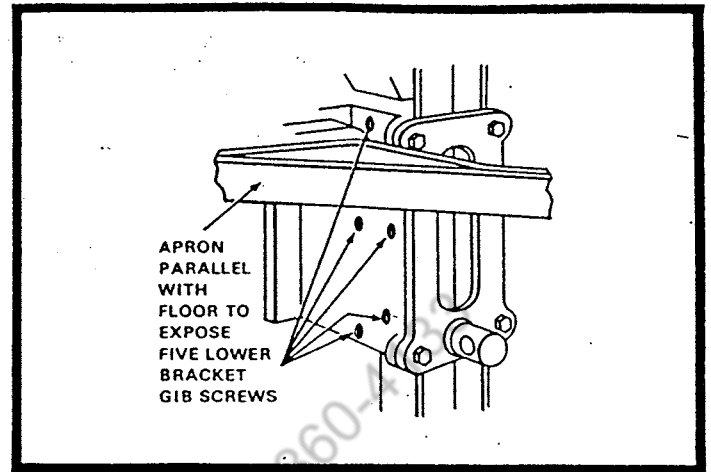

Figure 1. Lower Beam Bracket Gib Screws
**CARE:** Occasional oiling of moving parts with machine oil will ease operation and extend the life of the brake. Occasionally check and tighten the lower beam bracket gib screws (see figure 1) at each end of the brake. These screws are accessible when the apron is raised. These should be kept snug to reduce excess front to back play in the lower beam.